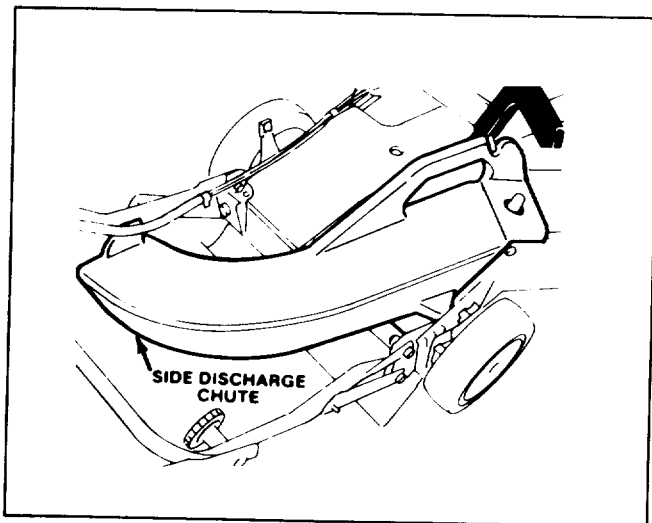

Figure 34
1. **Side Discharge Kit, Model No. 59168**—Installs in seconds. Rear mounted in place of the grass bag or discharge tunnel plug. Disperses clippings while trimming on both sides (Fig. 34).